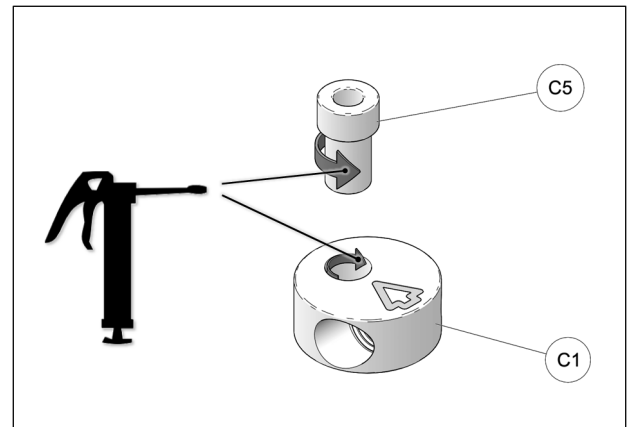

Fig. 22
- Apply grease evenly all around step spacer bushing (C5) and in hole of aluminum disk (C1) when assembling these parts together. See Fig. 22